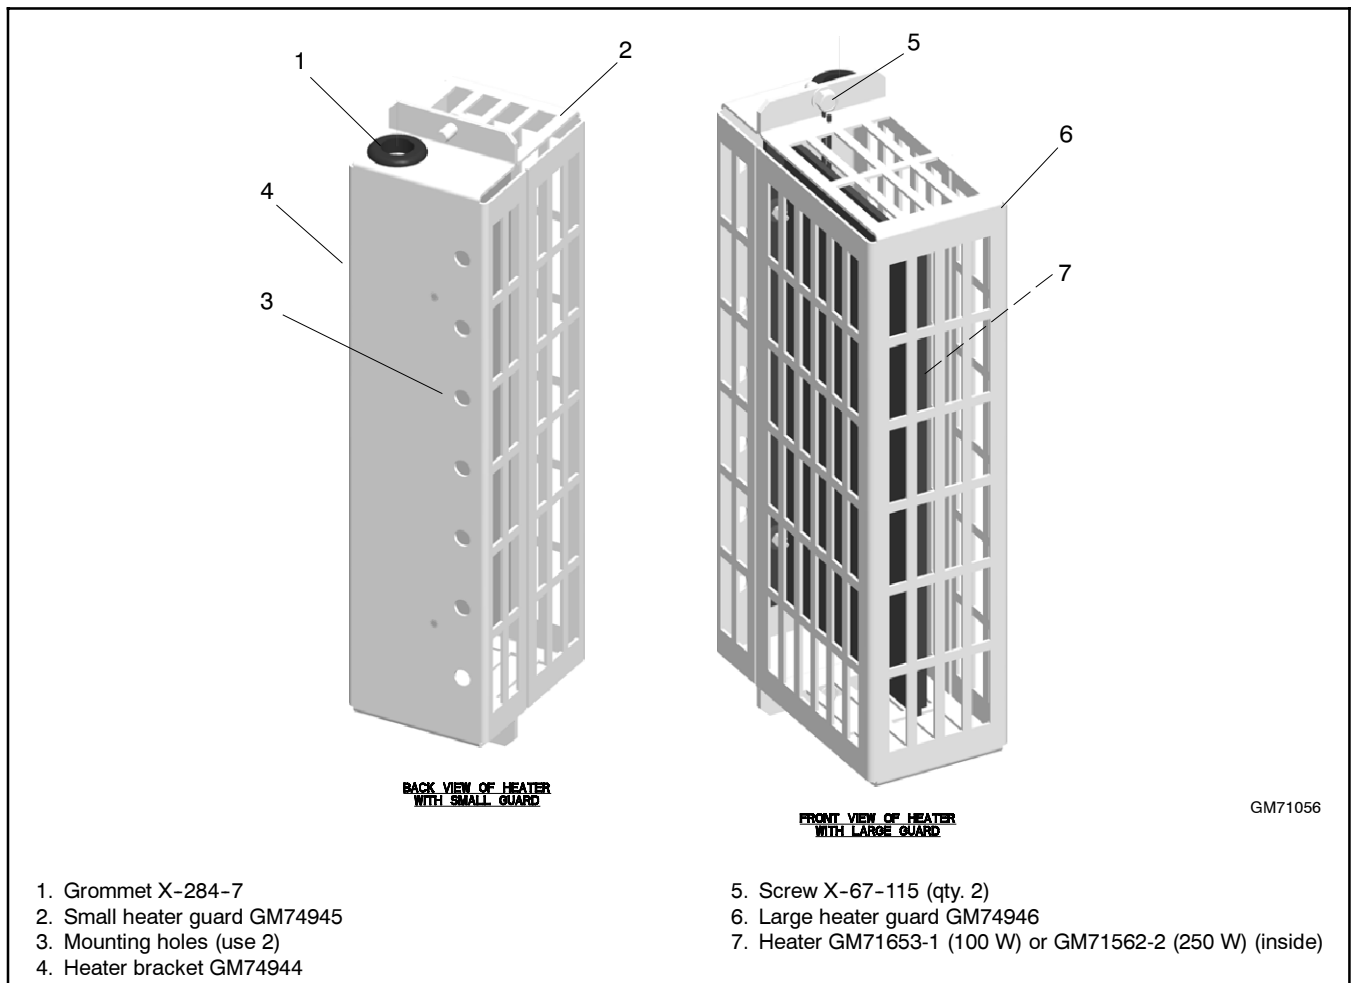

Figure 4 Heater and Guard Assembly
9. Remove the guard from the strip heater assembly. See Figure 4.